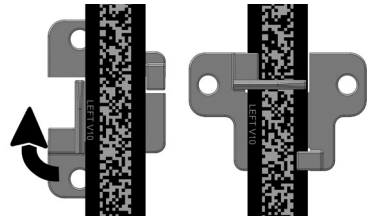

Figure 44: APS position indicator clip is inserted (left) and turned 90° clockwise
2. Insert the code tape in the clip guide rails (Figure 44).